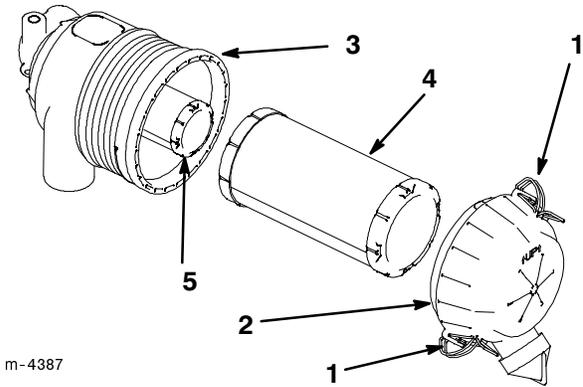

Figure 24
3. Release the latches on the air cleaner and pull the air cleaner cover off of the air cleaner body (Fig. 24).
5. Gently slide the primary filter out of the air cleaner body (Fig. 24). Avoid knocking the filter into the side of the body. Do not remove the safety filter, unless you intend to replace it as well.
2. If the safety filter is being replaced, carefully slide it into the filter body (Fig. 24).
3. Carefully slide the primary filter over the safety filter (Fig. 24). Ensure that it is fully seated by pushing on the outer rim of the filter while installing it.